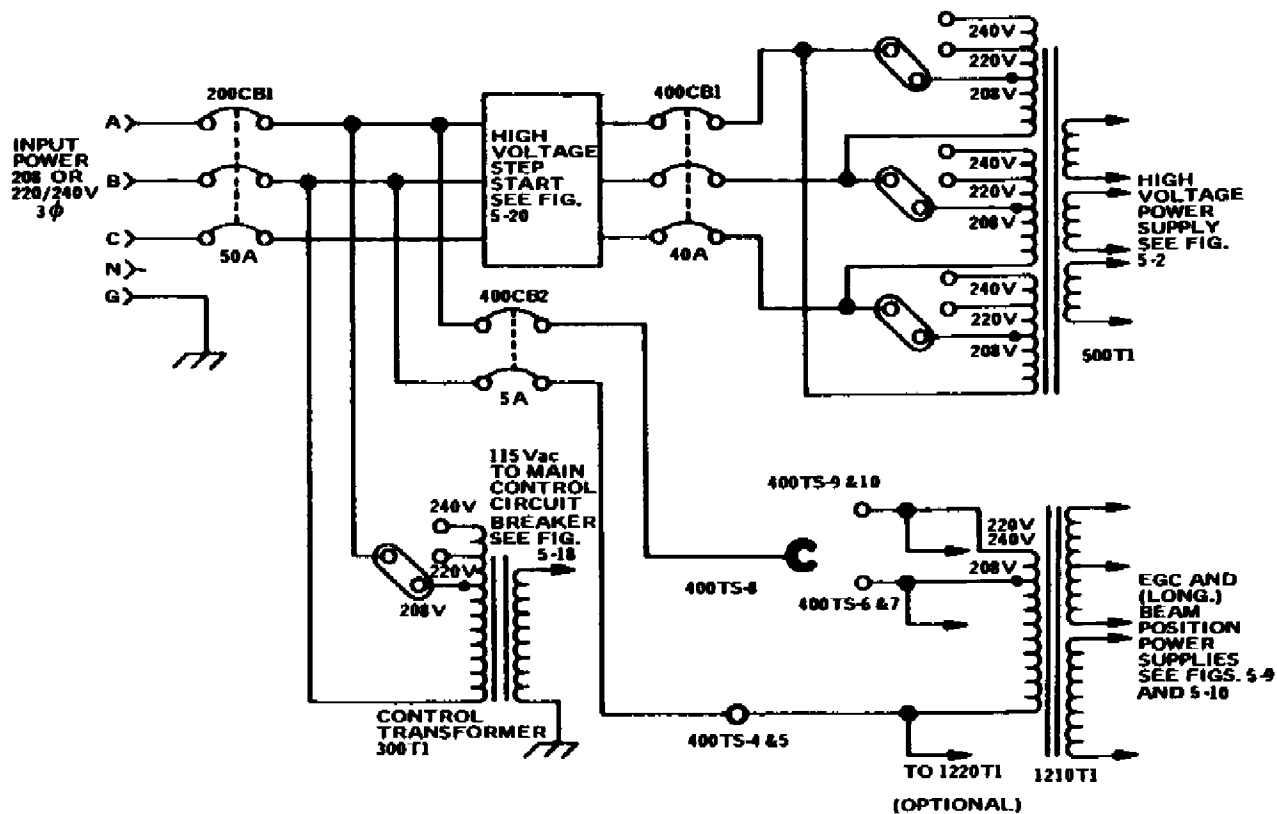

Figure 5-16. CV-8 A primary power (208/220/240V) input
- 5.6 PRIMARY POWER (Figures 5-16, 5-17, and 5-18)